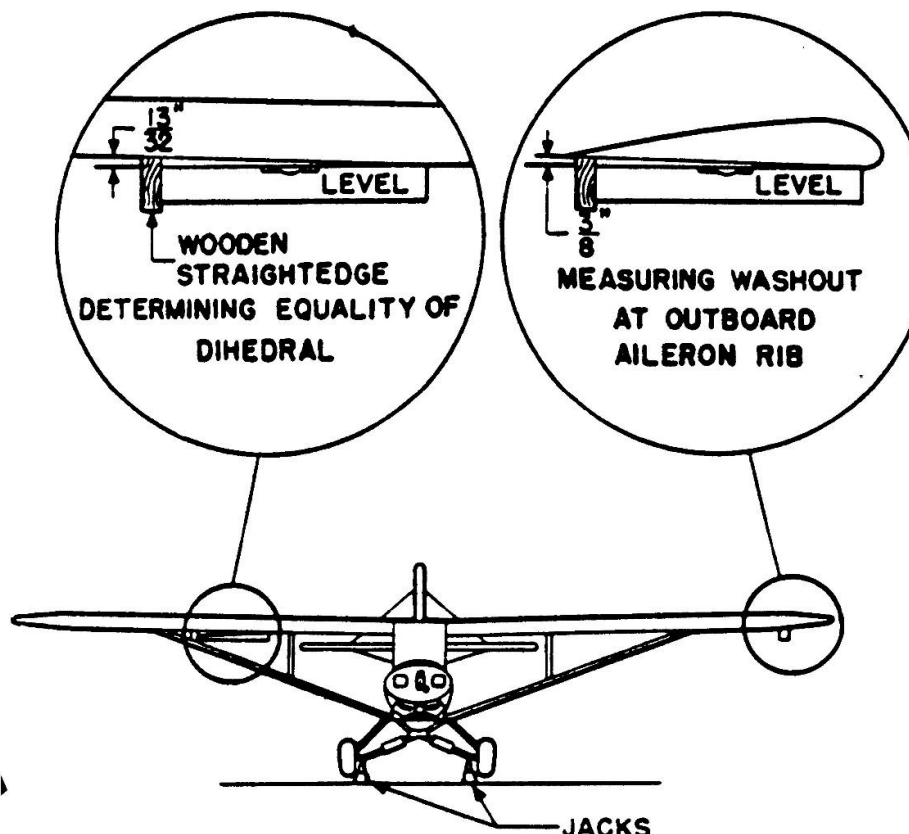

Figure 2. Rigging Diagram
To determine the equality of each wing panel: hold a wooden straightedge on the end of a 30" level so that one end of the straightedge protrudes 13/32" above the level (See Figure 2, Rigging Diagram). Place the combination along the front spar bottom between the lift strut and jury strut attachment fittings as illustrated in Figure 2. The level bubble should be approximately centered. Check the opposite wing panel in the same manner.
3. Washout. Check the washout of each wing by holding a wooden straightedge on the end of a 30" level so that one end of the straightedge protrudes 3/8" above the level (See Figure 2, Rigging Diagram). Place the combination along the underside of the full rib next to the outer end of the aileron. The level end with straightedge spacer should be to the rear of the rib while the other end of the level should be placed under the front spar. Correct washout exists when the bubble is centered.